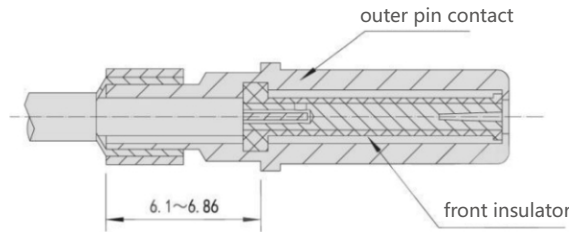

Figure 2.4
⑤Crimp the internal socket contact using the crimping tool MH992 and locator K1303.
⑥As shown in Attached Figure 2.4, assemble the internal component into the outer pin contact (under the cable shield mesh) until the internal socket contact is fully installed.